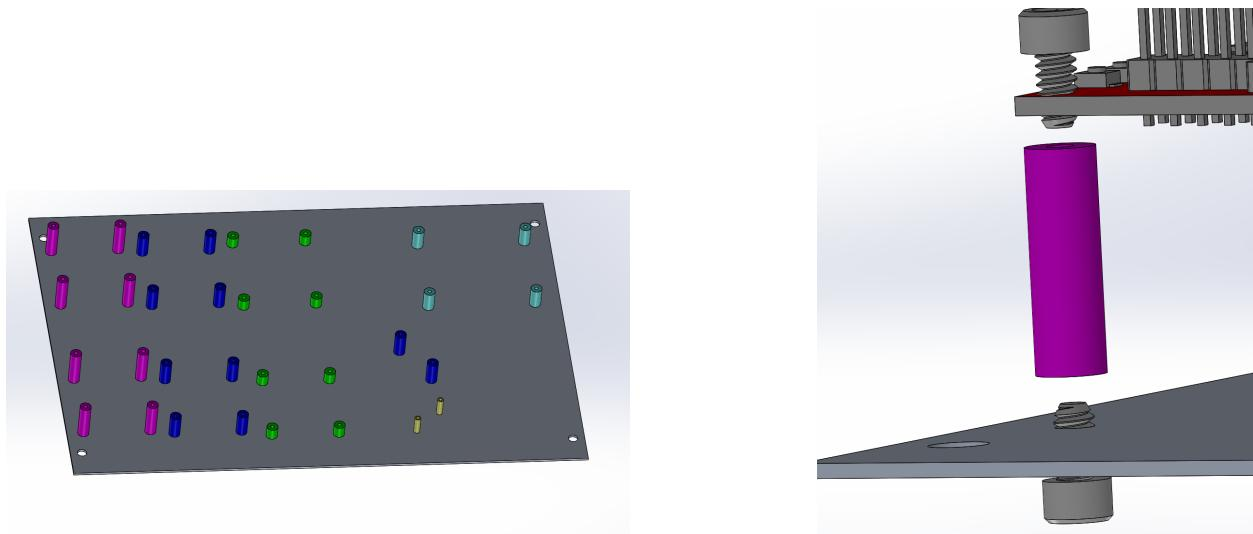

Figure 7: Electronics Board Step 1
- 1. Attaching the Standoffs** There are a few different standoffs here. By using different standoff heights, we gain access to the micro USB port on each of the individual Robo-Claws. The Raspberry Pi also has its own metric standoffs. In Figure 7, the colors correspond to the following parts: **Green:T4**, **Blue:T5**, **Pink:T6**, **Cyan:T7**, **Yellow:T8**. Use the screw that corresponds to the spacer or standoff used.